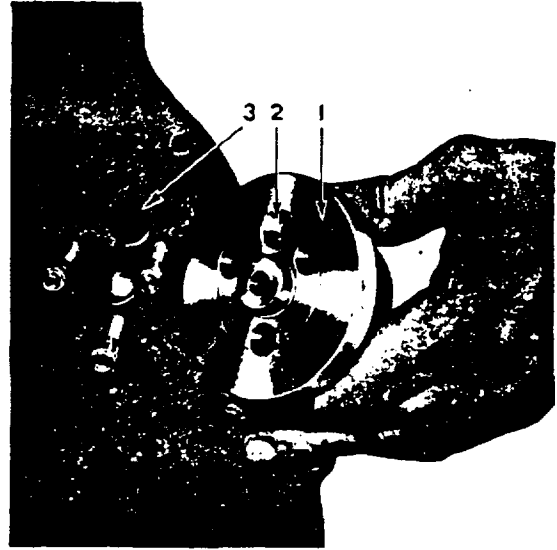

Fig. K.3.
1. After ensuring that the oilways in the hub are perfectly clean, refit the hub to its location in the timing case. The studs, on which the hub is located, are positioned so that the hub will fit in one position only, and the boss at the rear of the hub locates in a recess machined in the front face of the cylinder block (see Fig. K.3).